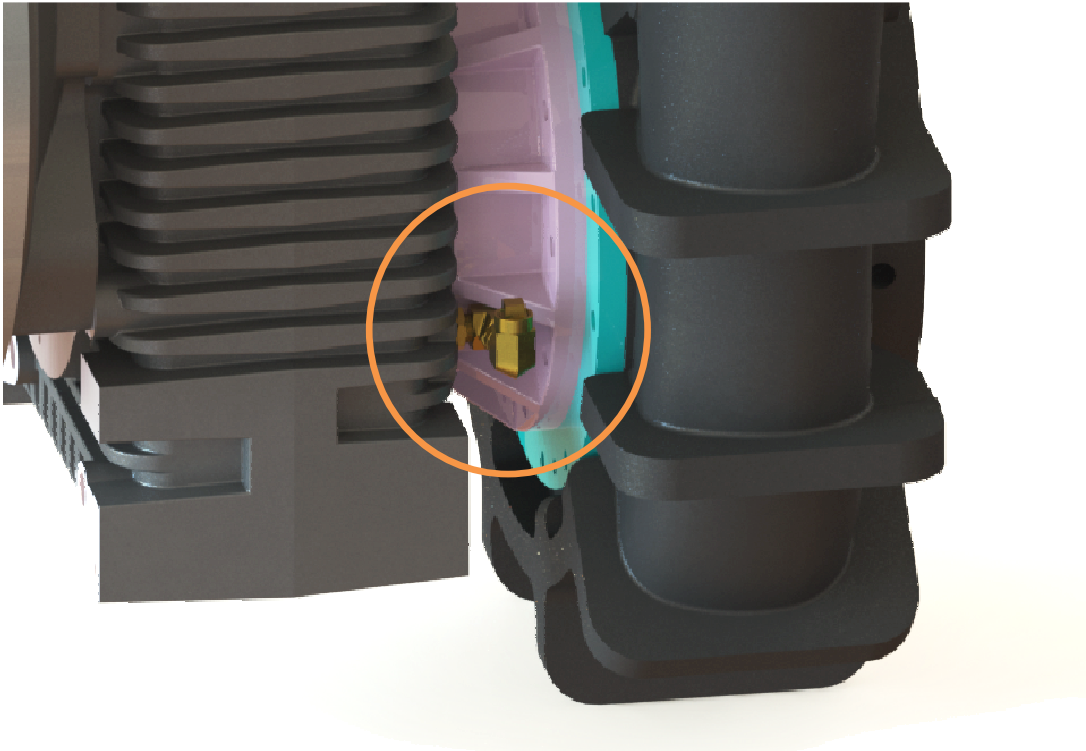

Figure 1 - Oil Fill Level Assembly - Factory Install Check (brass color shown for clarity)
- a. If your 80FCK gearbox has the pipe assembly shown in Figure 1 below, you have the correct, factory installed gearbox oil level assembly. This assembly will be painted the same color as your pump.